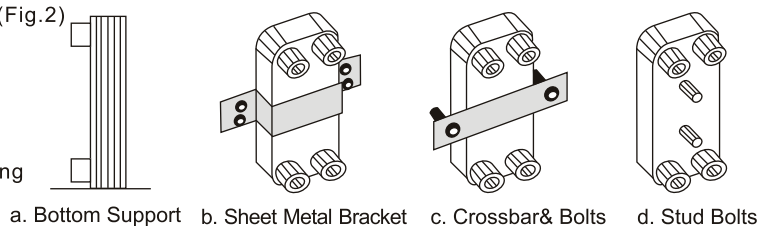

Fig. 2 Recommended Installation Position
2. Recommended installation position (Fig. 2)